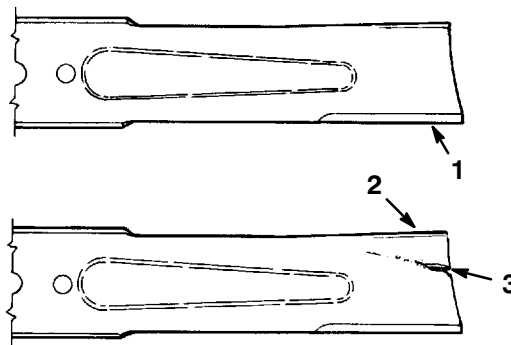

Figure 32
- Inspect the cutting edges (Fig. 32). If the edges are not sharp or have nicks, remove the blade(s) and sharpen them; refer to Sharpening the Blade(s), page 29.
- Inspect the blade(s), especially the curved area (Fig. 32). If you notice any damage, wear, or a slot forming in this area (Fig. 32), immediately install a new blade.